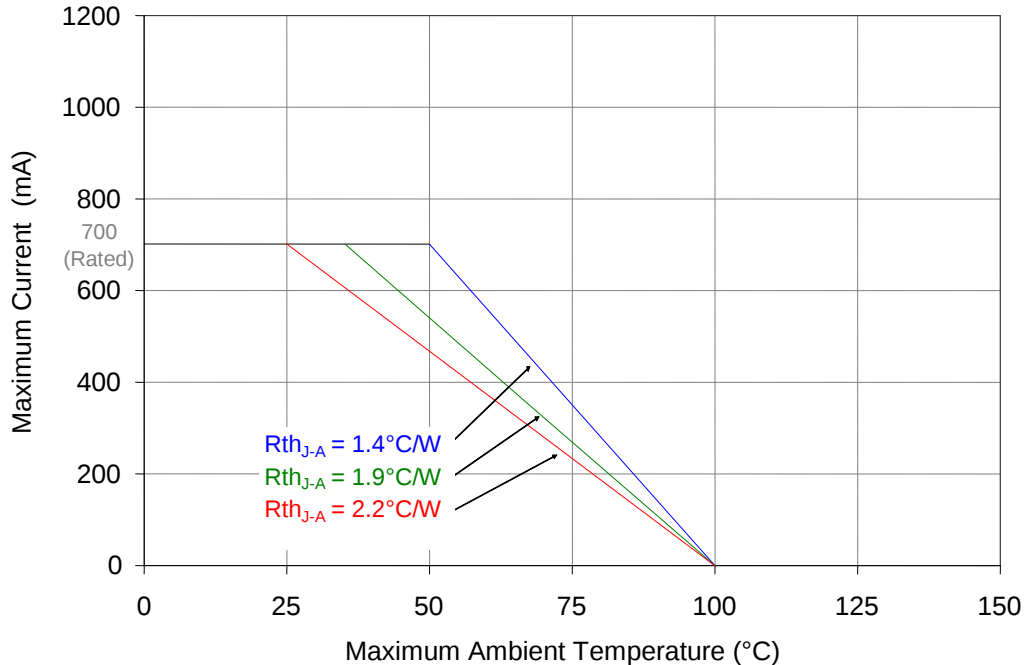

Figure 10: Maximum forward current vs. ambient temperature based on $T_{j(\text{MAX})} = 100^\circ\text{C}$.
- Maximum DC forward current (per die) is determined by the overall thermal resistance and ambient temperature. Follow the curves in Figure 10 for current derating.
Notes for Figure 10: